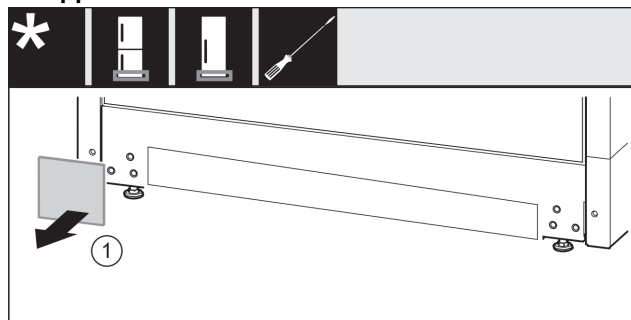

Fig. 35
- Remove the cover Fig. 35 (1).